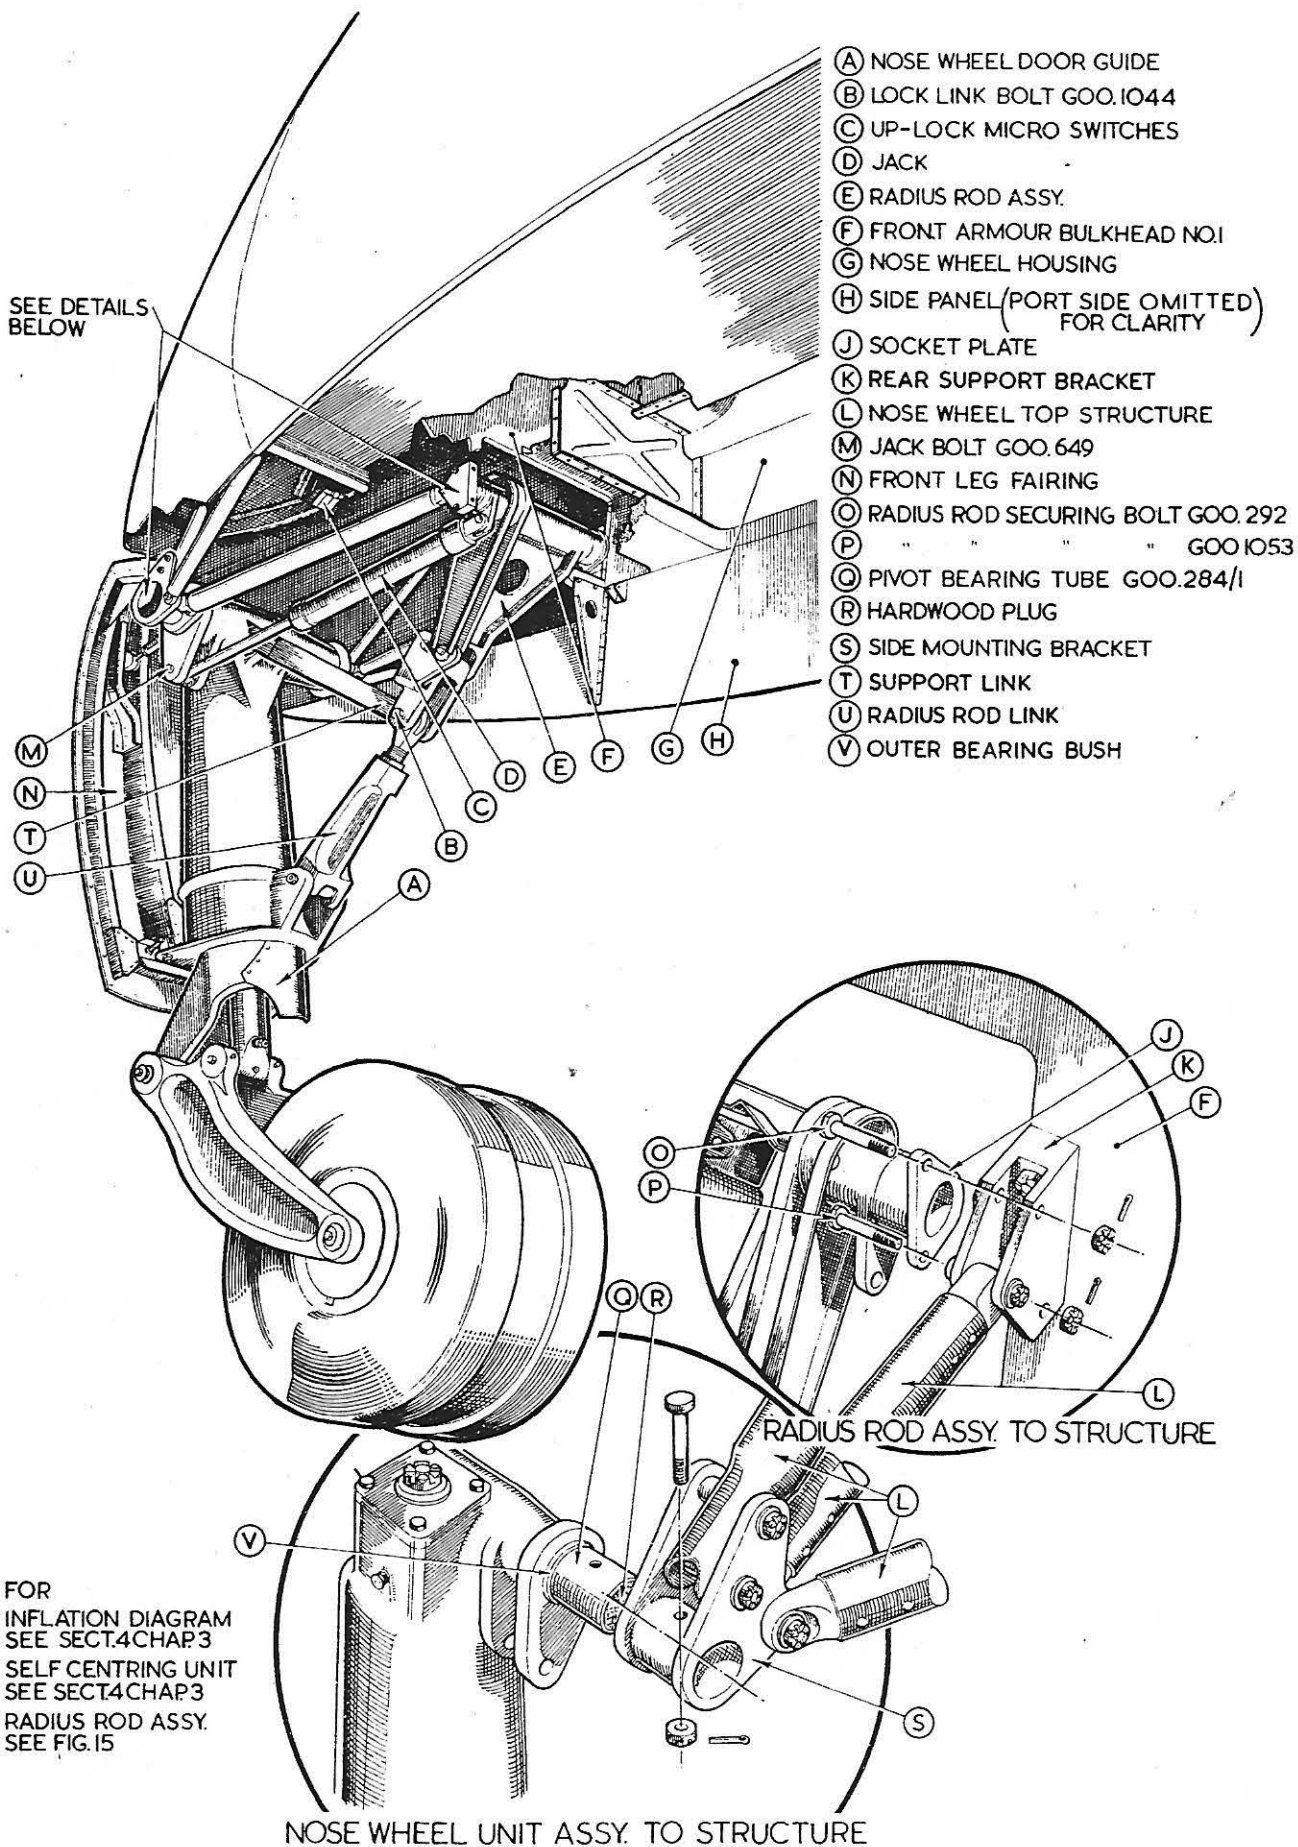

FIG. 14 NOSE WHEEL
REMOVAL OF NOSE WHEEL AND NOSE WHEEL UNIT (FIG. 14)
1. With the nose fairings removed (*as described in the nose wheel unit removal, fig. 14*). disconnect the radius rod link and the support link from the lock link by removing bolt, Part No. G.001044 (*fig. 14*).
4. Disconnect the radius rod socket plates from the rear support brackets by removing bolts, Part No. G.00292 and G.001053 (*fig. 14*).